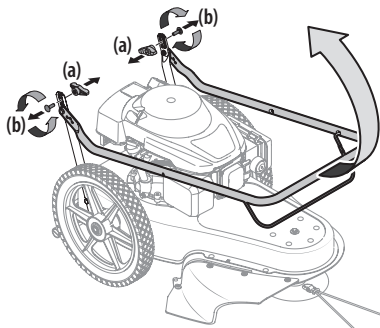

Figure 1
1. Remove the wing knob (a) and carriage bolt (b) from the left lower handle and the right lower handle. See Figure 1.
2. Pivot the upper handle into the operating position. See Figure 1.